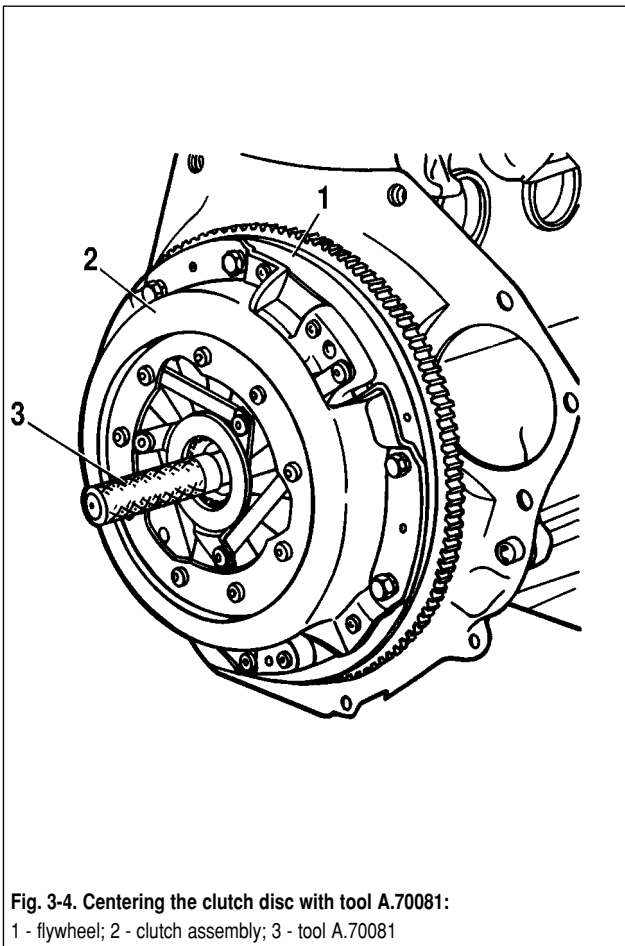

Fig. 3-4. Centering the clutch disc with tool A.70081:
- refit the clutch disc with the hub protruding part facing the gearbox and centralise the plate against the bearing using tool A.70081, simulating the gearbox input shaft splined end (fig. 3-4).
Refitting the gearbox is a reversal of removal. Before refitting, apply a thin layer of greasing ЛСЦ-15 (ЛИТОЛ-24) on the spline end of the input shaft and centralize the clutch disc using tool A.70081 (see fig. 3-4).